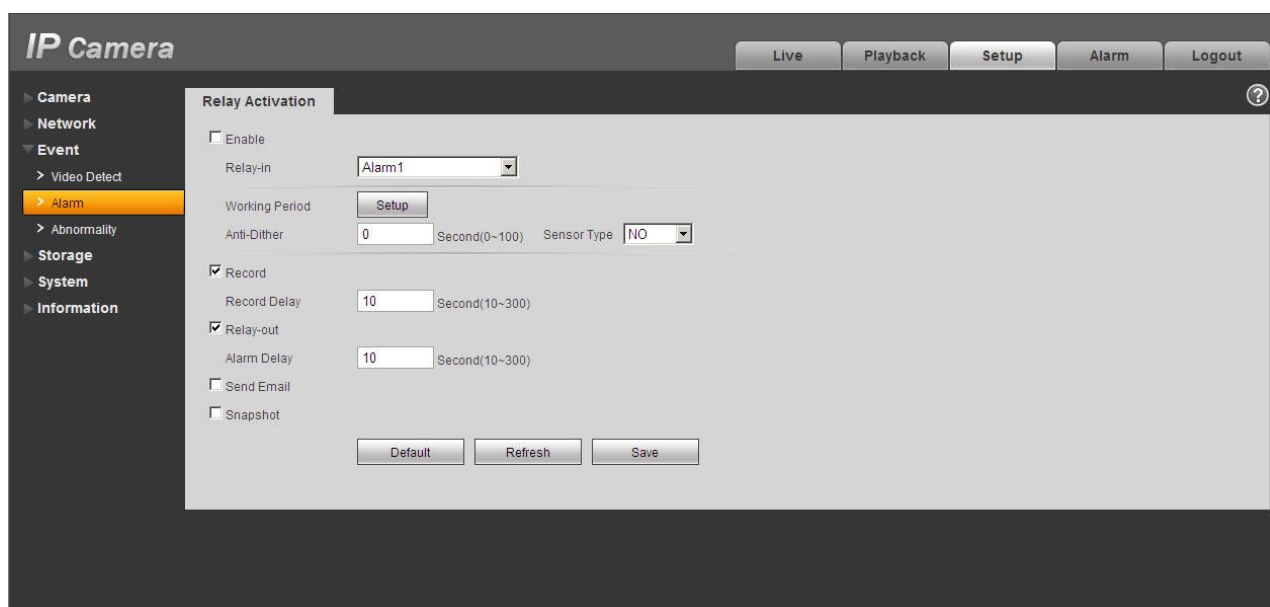

Figure 1-12 Alarm
The alarm interface is shown as in Figure 1-12. Please follow the steps listed below for local alarm input and output connection.
- 3) Open the Web, go to the Figure 1-12. Please set the alarm input 01 port for the first channel of the I/O cable (No.4 pin). Then you can select the corresponding type (NO/NC.)